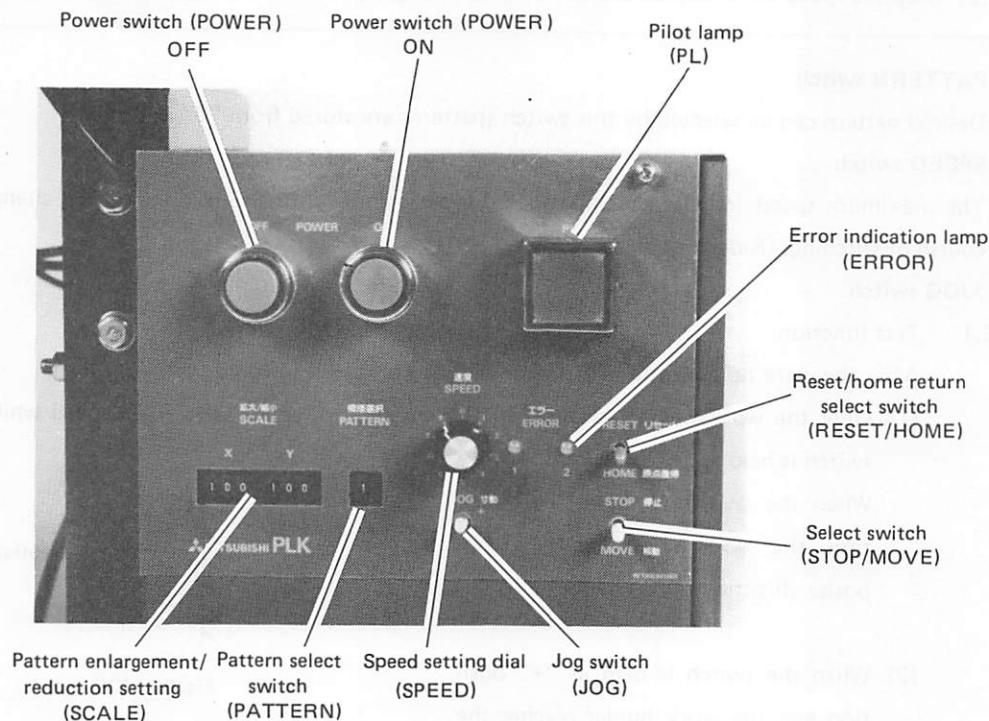

Fig. 5.1
- (1) Referring to Fig. 5.1, properly set switches on the switch panel.
- (2) Set up a fabric and depress the work holder lift switch to let down the work holder. Then depress the START switch, the sewing machine will start stitching. Once stitching starts, it continues even when the START switch is released, and stops with the work holder at UP position after thread trimming.